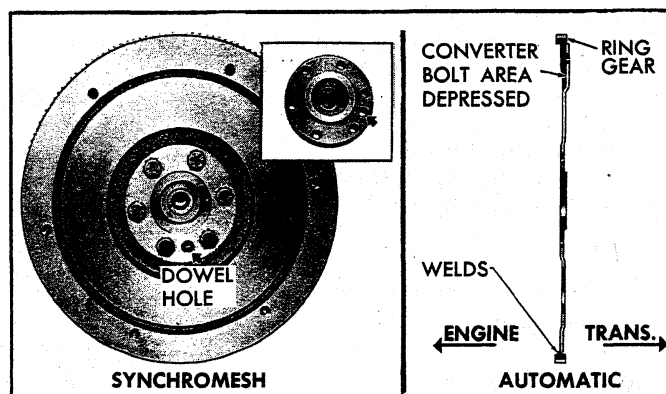

Fig. 28V - Flywheel Installation (Typical)
2. Install flywheel on crankshaft and position to align dowel hole of crankshaft flange and flywheel (fig. 28V).